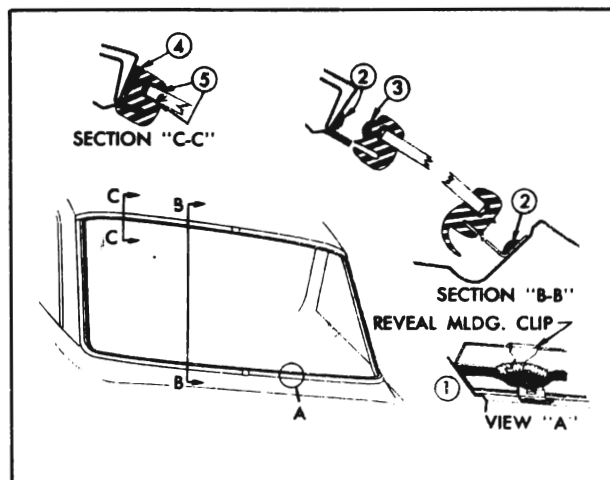

Figure 4-5—Back Window Sealing
2. Check installation of reveal molding clips at pinchweld and retaining flanges and replace clips, where necessary. If replacing clips, apply medium-bodied sealer to opening rabbet, prior to installing clips (see "1" in View "A", Figure 4-5).
3. Apply a continuous ribbon of medium-bodied sealer (approximately 1/2 inch wide by 1/4 inch thick) on wall of rabbet, completely around opening (see "2" in Section "B-B", Figure 4-5).
5. Apply a continuous ribbon of medium-bodied sealer (approximately 1/2 inch wide by 1/4 inch thick) to base of rubber channel across top and down sides at opening (see "3" in Section "B-B", Figure 4-5).
8. Using a pressure type applicator, apply sufficient medium-bodied sealer to completely fill any openings between rubber channel and body completely around rubber channel (see "4" in Section "C-C", Figure 4-5).
9. Using a pressure type applicator (pistol type oiler) apply weatherstrip adhesive (black) between rubber channel and glass on inside and outside of glass around entire perimeter of glass (see "5" in Section "C-C", Figure 4-5). Application of adhesive should be continuous with no skips.